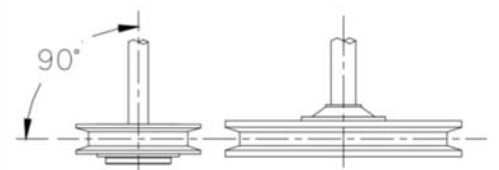

Figure 9
- 4) To align belt, lay a straight edge against the face of the flywheel touching the rim at two places. (See Figure 9 to the right)